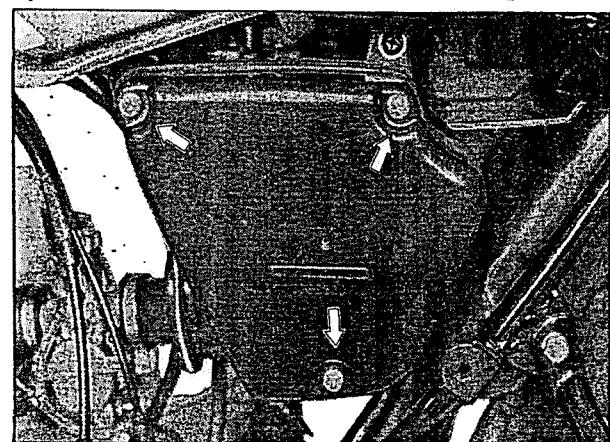

Fig 2.2
- Unscrew the retaining screws and take off the air cleaner housing cover (fig 2.2)